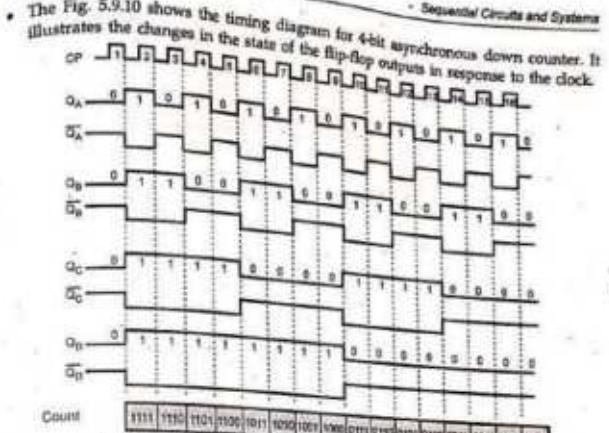

Fig. 5.9.10 Timing diagram of 4-bit asynchronous down counter
- The Fig. 5.9.10 shows the timing diagram for 4-bit asynchronous down counter. It illustrates the changes in the state of the flip-flop outputs in response to the clock.